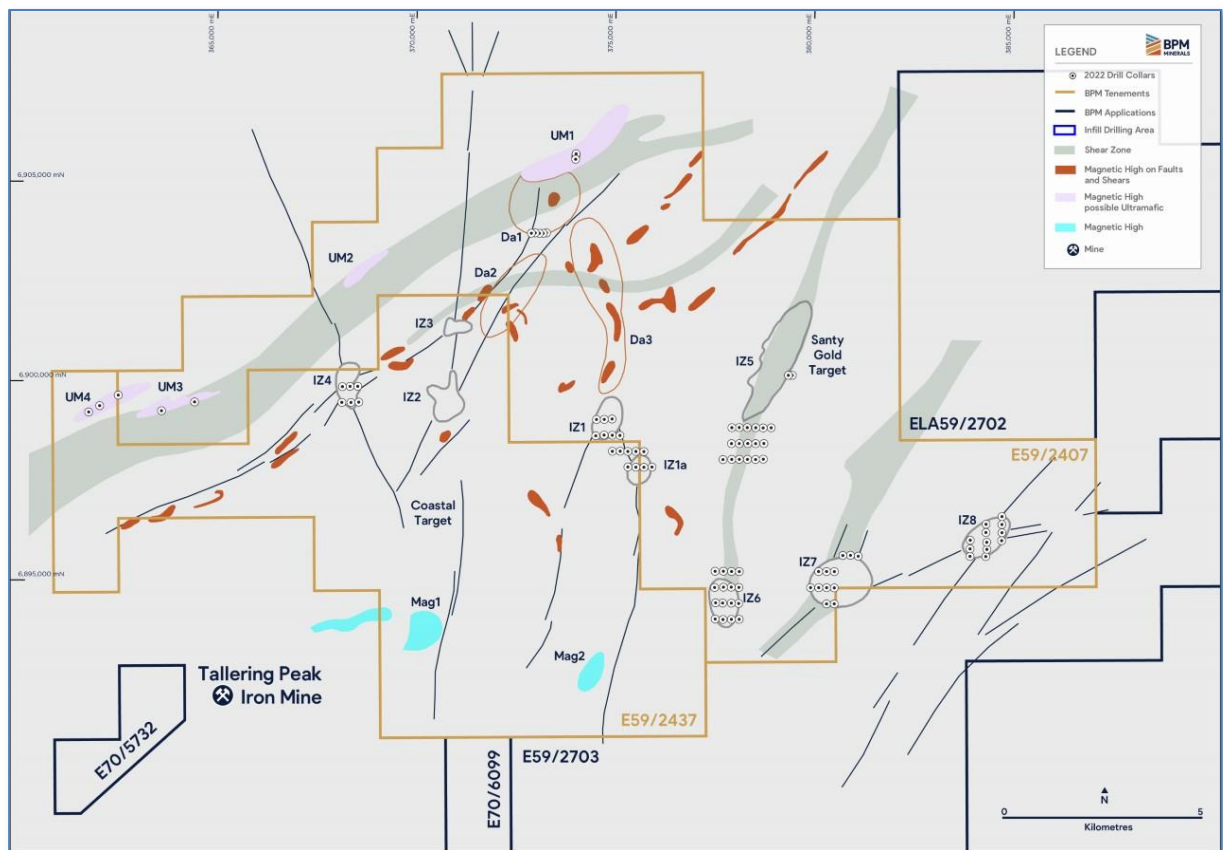

Figure 2 - Santy Project - Phase 2 drilling with structural targets.
- Further gold mineralisation at multiple regional targets (Fig. 2).
The Chickie and Louie anomalies (Fig. 2) were identified following a review of all available open file data sets from exploration drilling completed by Reynolds Australia Metals Ltd ('Reynolds') more than 30 years ago. Reynolds completed limited scout drilling in the northern portion of the Project area, targeting the same structure that hosts the Mount Gibson Gold deposits. The historical review of data included 138 Air Core ('AC') and Rotary Air Blast ('RAB') holes for a total of 3,882m³.